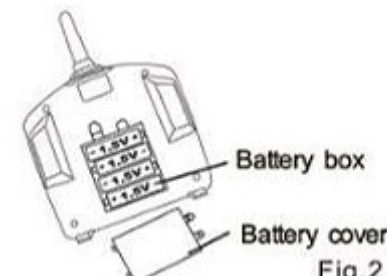

Fig.2
2.Installation of transmitter as Fig. 2, to install 4 AA batteries (additional purchase) in right way